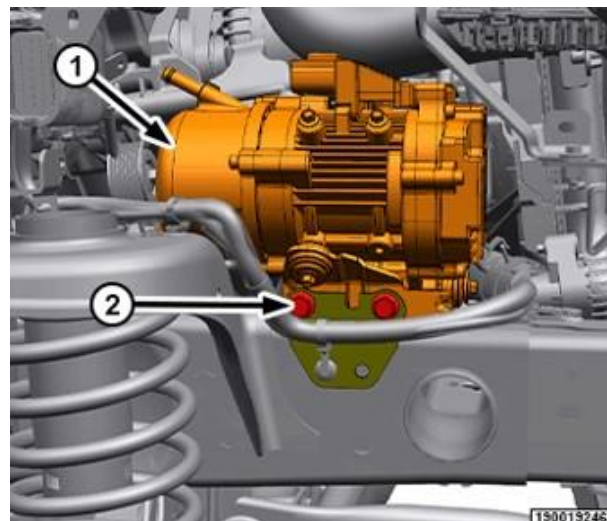

Figure B12 – EHPS Pump
23. Remove the EHPS pump frame bracket bolts (Figure B12).
24. Remove the EHPS pump from the vehicle with reservoir attached (Figure B12).
27. Locate EHPS ground G908A on body of vehicle near the right-side headlamp on one of three studs (Figure B12). NOTE: The EHPS ground connection is often located on the lower stud but may vary depending on vehicle build configuration so MUST be verified.
28. Remove the ground nut and eyelet off the stud then verify continuity with a multimeter between G908A ground eyelet and EHPS connector D2704A cavity 1 black wire. Also verify the EHPS ground circuit is isolated from chassis ground (Figure B12). NOTE: If a continuity reading is still present between the EHPS ground circuit wire and chassis ground, the wrong wire has been
40. Install the EHPS pump frame bracket bolts and tighten to 29 N·m (21 Ft. Lbs.) (Figure B12).
41. Align the wire harness bracket and install and tighten the bolts securely (upper image in Figure B12). For 3.0L, connect the electrical connector (lower image in Figure B12).